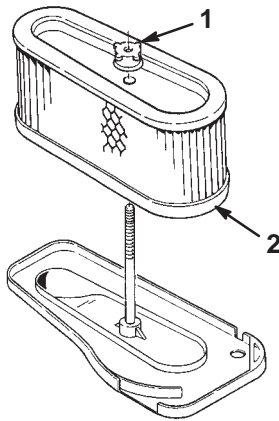

Figure 22
10. Unscrew the rubber nut and remove the paper element (Fig. 22).
- Screw the rubber nut finger-tight against the air cleaner (Fig. 22).